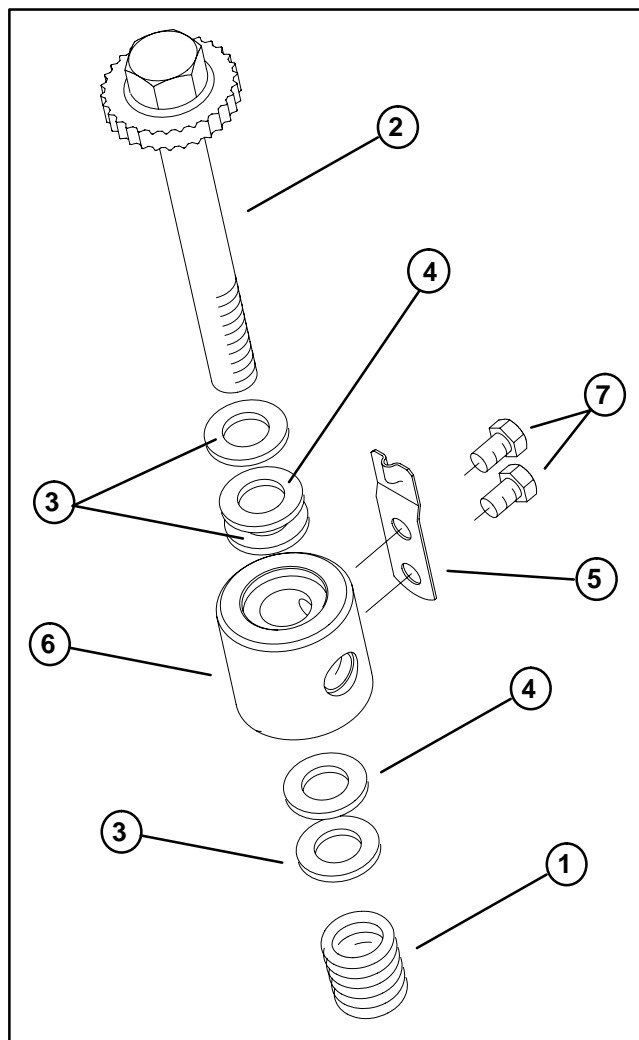

Figure 39
### Disassembly (Fig. 39)
### Assembly (Fig. 39)
1. Place antiseize lubricant onto the threads of the adjuster (Fig. 39).